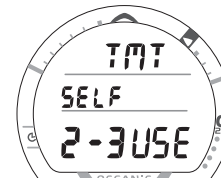

Fig. 88 - GAS SWITCH LEAD-IN
- Depressing the M button for 2 seconds while viewing a NORM DIVE MAIN screen will access the TMT 2-3 USE (Lead-in) screen displaying the Set Point SELF (Fig. 88). If 'bud' is displayed, indicating that the VT3 is set for Buddy Pressure Check, a Gas Switch cannot be made.